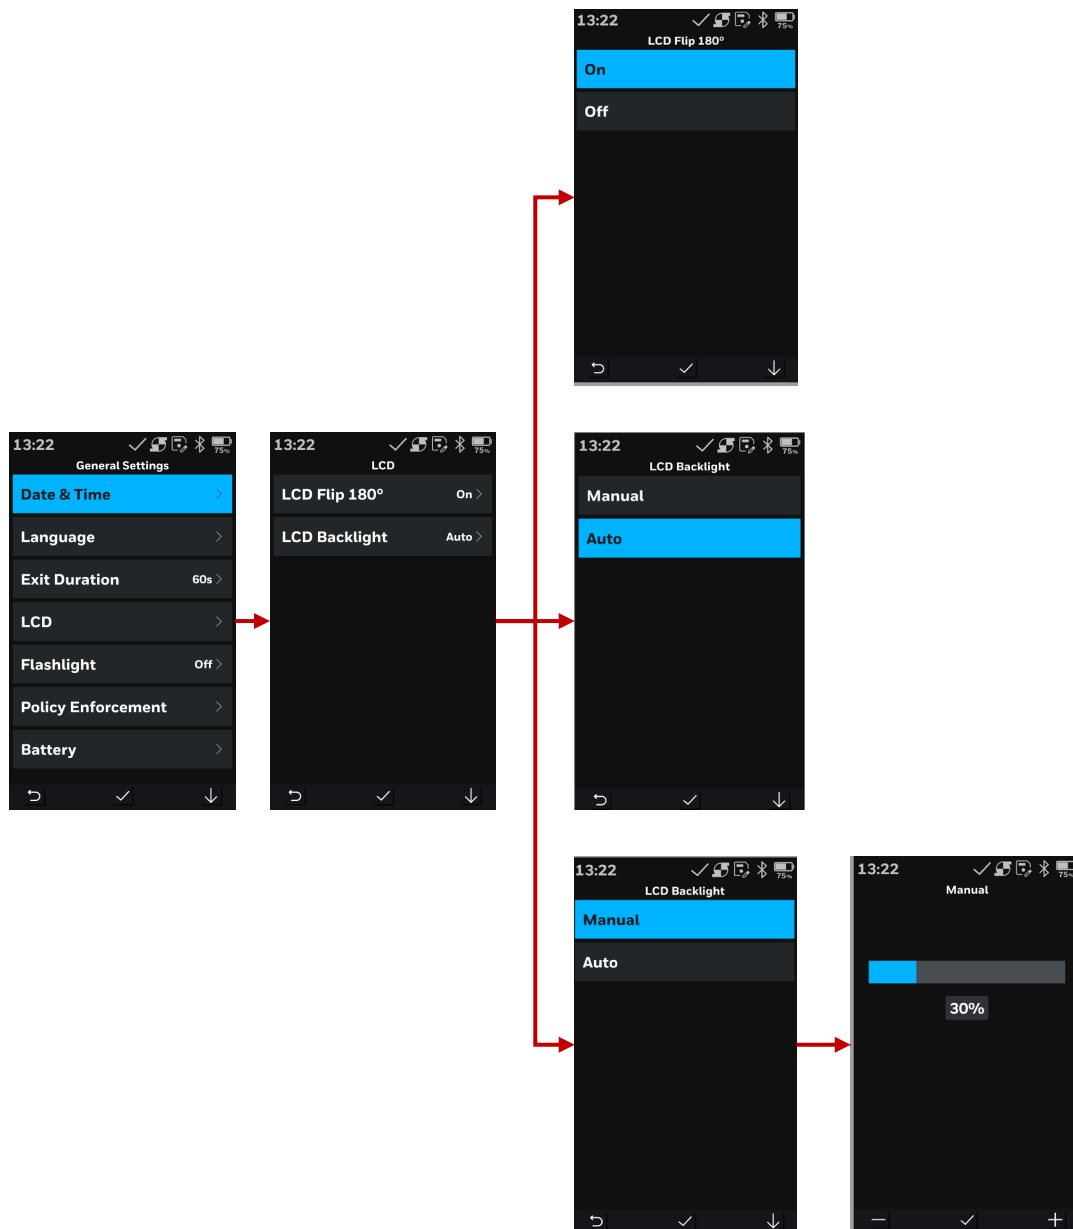

Figure 53: Display Behavior Settings
- **LCD Backlight:** Select between manual and automatic backlight control. In manual mode, you can adjust the backlight level by pressing the plus (+) and minus (-) keys located at the bottom of the screen. If you opt for automatic backlight, the device utilizes an ambient light sensor to detect surrounding light levels and automatically adjusts the LCD backlight for optimal visual comfort and clarity. Figure 53 below illustrates these display behavior settings options.